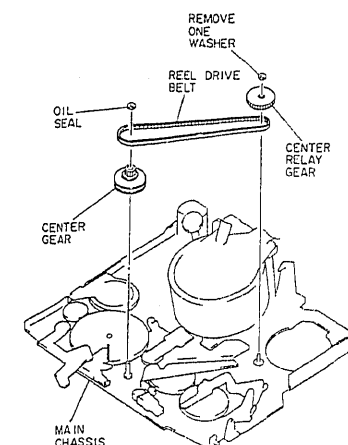

Fig. 2-56
- 1) Remove the oil seal of the center gear. (See Fig. 2-56)
2) Remove one (1) washer holding the center relay gear.